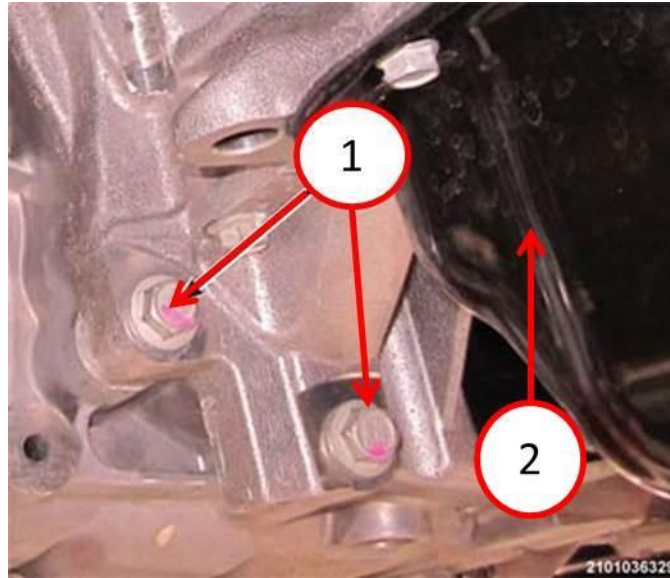

Fig. 3 Two Bolts To Be Replaced
7. Remove and discard the 2 bolts (1) holding the engine block to the bell housing next to the differential housing, located directly below the starter at the front of the engine. (Fig. 3).
8. Install the new 45mm bolts in place of the bolts removed (Fig. 3). Tighten to 50 N·m (36 ft.lbs).